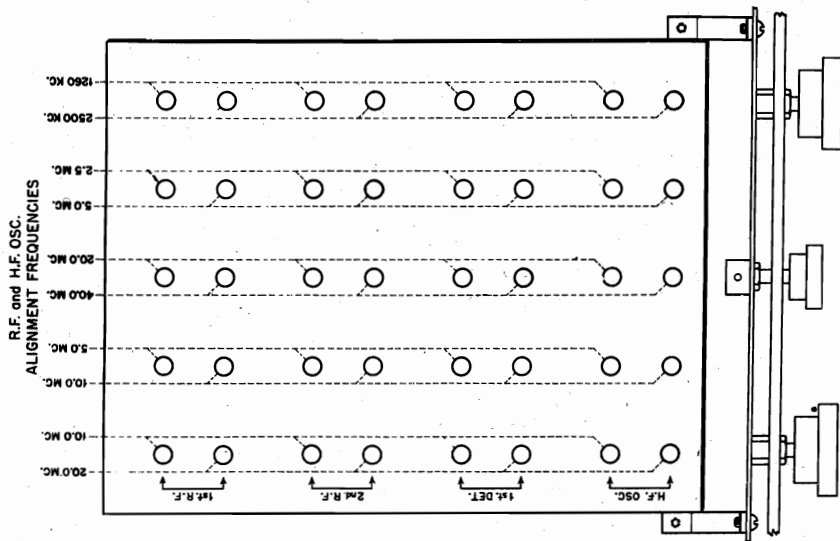

Fig. 13. ALIGNMENT CHART. Shows location of screwdriver adjustments and corresponding test frequencies.
a. *Signal Generator* - This should be an accurately calibrated instrument producing amplitude-modulated radio-frequency signals. In addition to 465 kc (the I.F.), the frequency range required of the signal generator depends on the tuning range of the receiver to be aligned. The H-F alignment frequencies required for the Series 400-SX Super-Pro are shown in Fig. 13. The second harmonic frequency is not available. For example: a signal generator covering all frequencies from 465 kc to 20 mc could be used to check the highest frequency band by using the second harmonic of 20 mc to provide the 40 mc called for in Fig. 13. The signal generator should have an output of approximately 100 microvolts and an output impedance of approximately 100 ohms for best results when aligning the R-F and H-F Oscillator circuits. For I-F alignment these values are not critical. The frequency calibration of the signal generator is extremely important if the Receiver dial calibration is to be correct.
(1) To correct dial calibration, refer to alignment chart (Fig. 13) for location of H-F oscillator adjustments as well as signal frequencies at which settings should be made. If the 2.5-5.0 mc band is to be corrected, the signal generator may be set accurately to 2.5 mc and its second harmonic (if strong enough) used for the 5.0 mc end of the band. The output of the signal generator should be unmodulated and SIGNAL-MOD-CW switch on Receiver turned to CW. Set BEAT OSCILLATOR at 0, AUDIO GAIN at 10, AVC-MANUAL on MANUAL, BAND WIDTH at 16. Disconnect output meter and use earphones or loudspeaker to make necessary adjustments by "zero beat" method. Connect signal generator to antenna terminals for this test.
(2) Tune in second harmonic at 5.0 mc end of dial to zero beat. Notice approximate dial error. Turn main dial slightly toward 5.0 mc calibration line until beat note rises to a high pitch. Do not turn dial far enough to
(2) Starting with 2.5-5.0 mc band, set main dial at 5.0 mc (BAND SPREAD at 100) and adjust frequency of signal generator for peak deflection of output meter. Then check setting of trimmer marked 1st DET 5.0 mc (Fig. 13). Repeat this procedure on trimmers designated as 2nd RF and 1st RF in same row. If readjustments on one of these settings greatly increases output meter reading, alter SENSITIVITY slightly to reduce reading to half-scale. After each adjustment check tuning of Receiver to make sure test signal is still accurately tuned. BAND SPREAD may be used as a vernier for this purpose. CAUTION: THIS TUNING CHECK IS EXTREMELY IMPORTANT AT HIGH END OF 10-20 MC AND 20-40 MC BANDS WHERE THERE IS SOME SLIGHT INTERACTION BETWEEN 1ST DET AND H-F OSC CIRCUITS. After checking the three trimmers at high end of this band, turn main dial to 2.5 mc and retune signal generator to suit. Then check the three inductance adjuster settings marked 2.5 mc (Fig. 13) in the same row. Since adjustments at one end of a band also affect the other end of the band (as described under H-F OSC alignment), repeat above procedure until no further improvement can be secured. The number of repetitions necessary depends on how much mistuning existed initially. Other bands may be checked in the same manner.
(3) For best possible efficiency with a particular antenna arrangement, the 1st RF circuits may be adjusted with the antenna connected. This can be done by loosely coupling output of signal generator to antenna
raise beat so high it cannot be heard. With alignment screwdriver adjust trimmer capacitor marked HF OSC 5.0 mc (Fig. 13) until beat is again zero. Turn main dial still farther toward 5.0 mc line and make a further adjustment of trimmer capacitor to return to zero beat. Repeat this process as often as necessary to bring dial to exactly 5.0 mc. (The main dial could be set at once on exactly 5.0 mc and trimmer turned enough at one time to produce zero beat, but the step-by-step method is recommended.) Now tune in 2.5 mc fundamental at low-frequency end of main dial and correct the calibration step-by-step as before, using inductance trimming adjustment HF OSC 2.5 mc (Fig. 13). When second harmonic is again tuned in at other end of dial, it will be found that inductance adjustment at 2.5 mc has changed correction previously made at 5.0 mc. This is normal. Go back and forth several times from 2.5 to 5.0 mc in order to bring both ends of dial scale into exact agreement with the signal frequency. CAUTION: DURING THIS ADJUSTMENT BE VERY CAREFUL TO ADJUST THE SENSITIVITY CONTROL TO AVOID OVERLOADING.